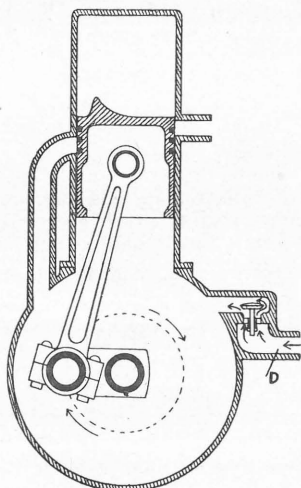

Fig. 14.
We will now explain how gas is got into the crankcase. Fig. 14 shows a mushroom valve like those used in the four-stroke engine, but fastened to the crankcase instead of to the cylinder. It is held down by a spring, but this spring is very weak, a very slight suck above the valve being enough to open it. The pipe (D) below the valve is connected to a carburettor or vaporizer, just as if it were the inlet valve of a four-stroke motor, and when the valve is open gas passes through it.